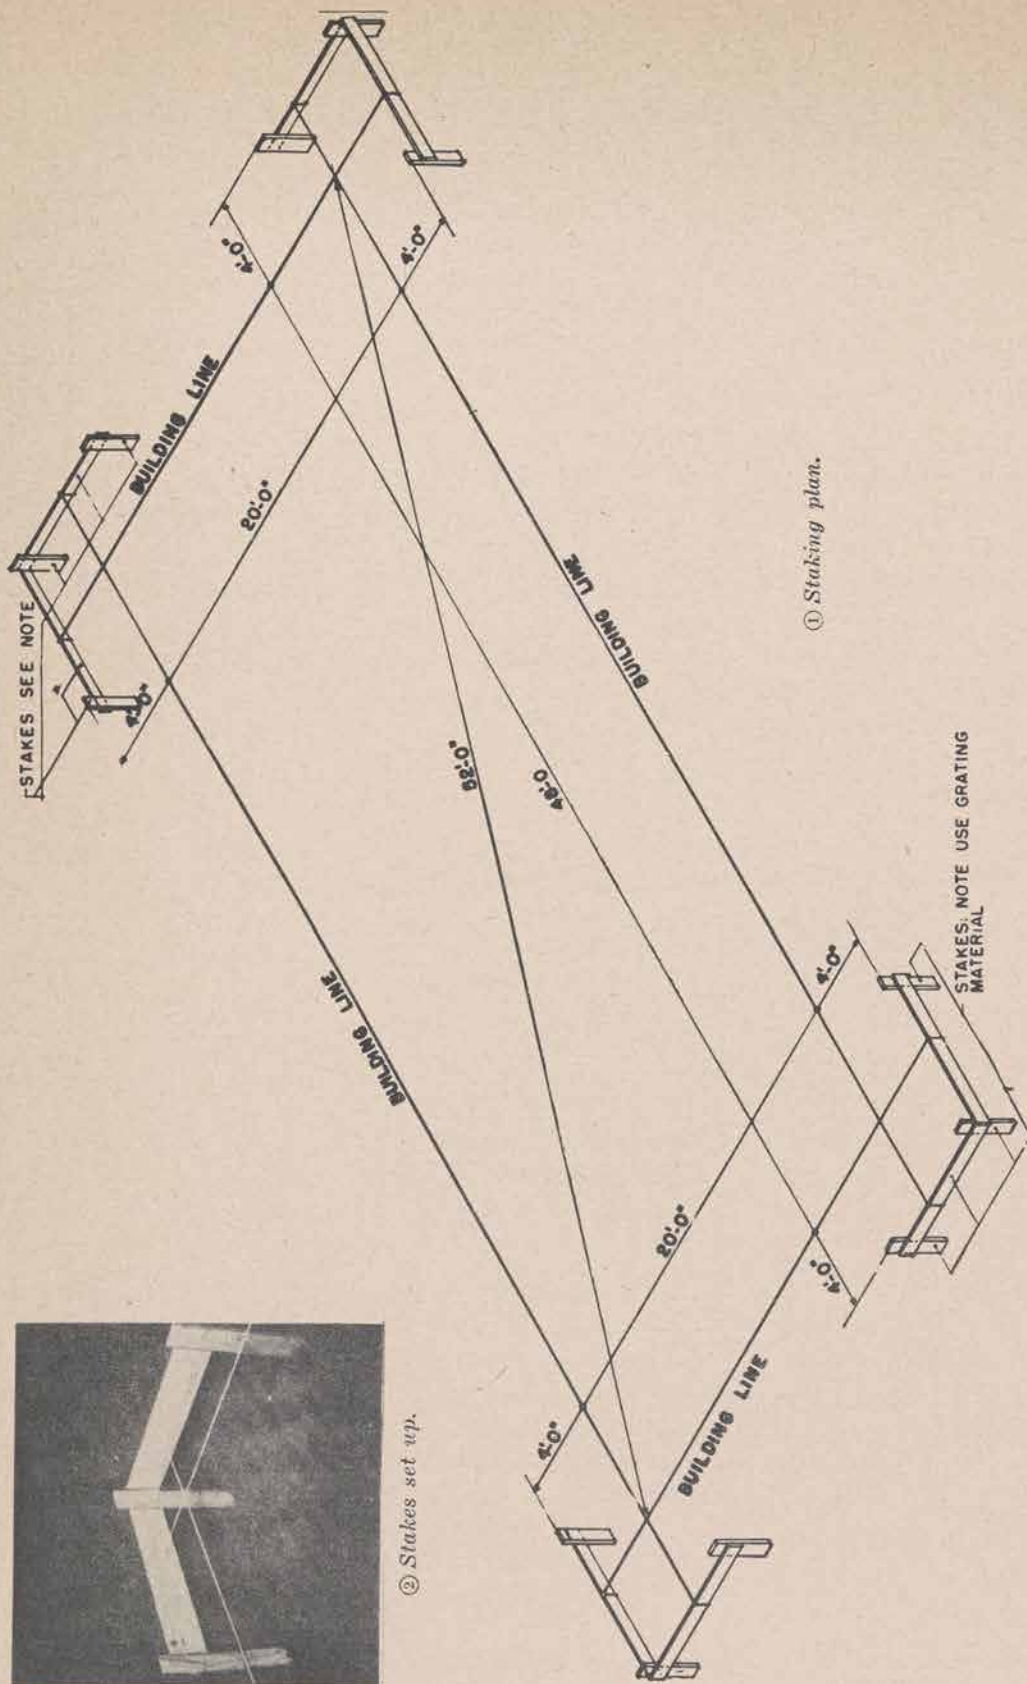

Figure 5. Stakes.
2. Foundation (refer to figures 5 and 6)
a. Lay out foundation as shown in foundation plan, figure 5①, using transit or steel tapes. Be sure that the layout is square.
b. The batter boards can be adjusted to the desired grade of the top of the posts with a level or transit. None of the posts should be less than 12 inches above the ground line. If no transit or level is available, the posts can be set to grade with a 10-foot straight edge and a spirit level (see fig. 5②).